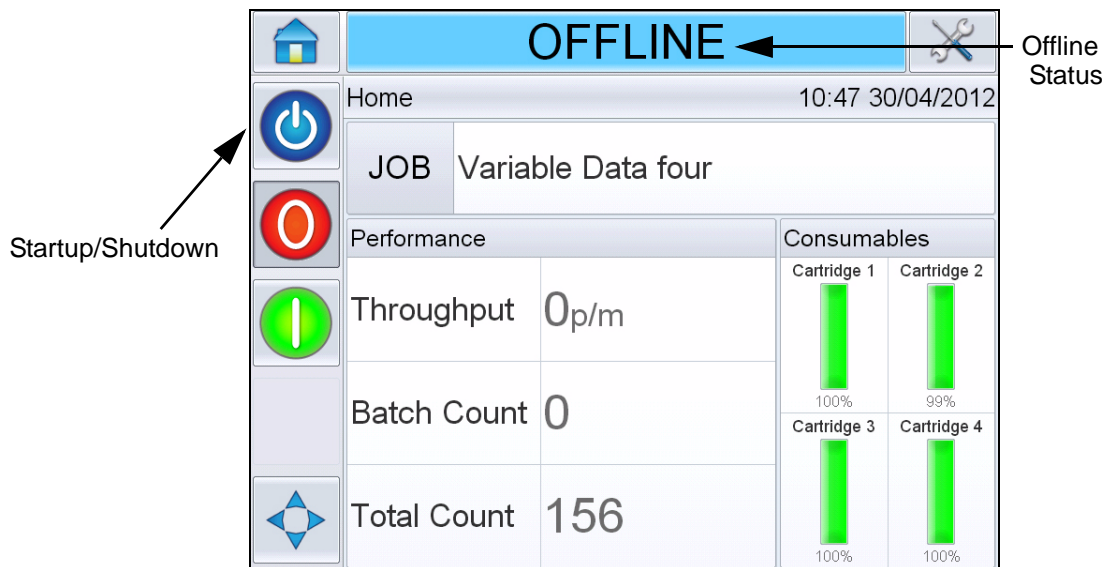

Figure 5-17: Home Page - Offline
- 2 The *STARTING UP* status appears in the status bar of the CLARiTY® *Home Page* (Figure 5-17) followed by *OFFLINE* status when the printer is successfully prepared for printing.